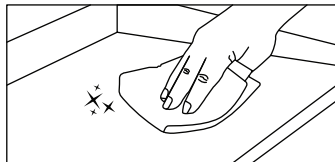

Fig. 9
STEP 04 Wipe again with a paper towel and dry completely. (See Fig. 9)